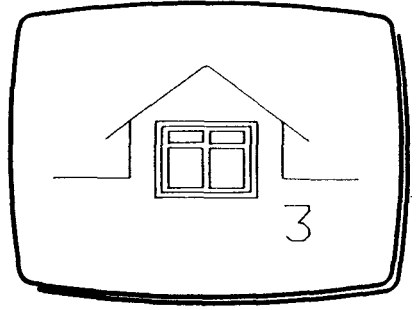

Fig 4
- 14 Press and release **T** to draw the window frame as (3) in Fig 4.